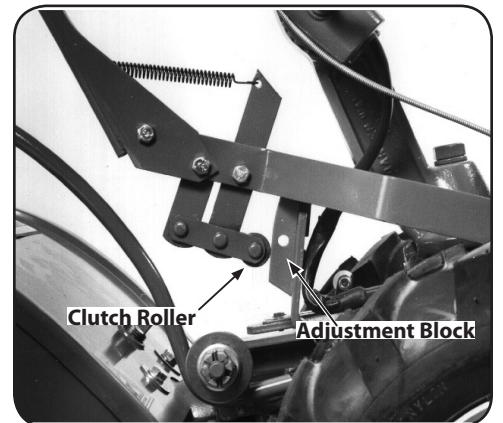

Figure 3-12
8. To test Reverse, lift and hold the lever all the way up in the Reverse position, then let it go. The lever should automatically return to the Neutral position. See Figure 3-12. If not, do not use the tiller. See your local authorized dealer or call the Troy-Bilt Technical Service Department for instructions.